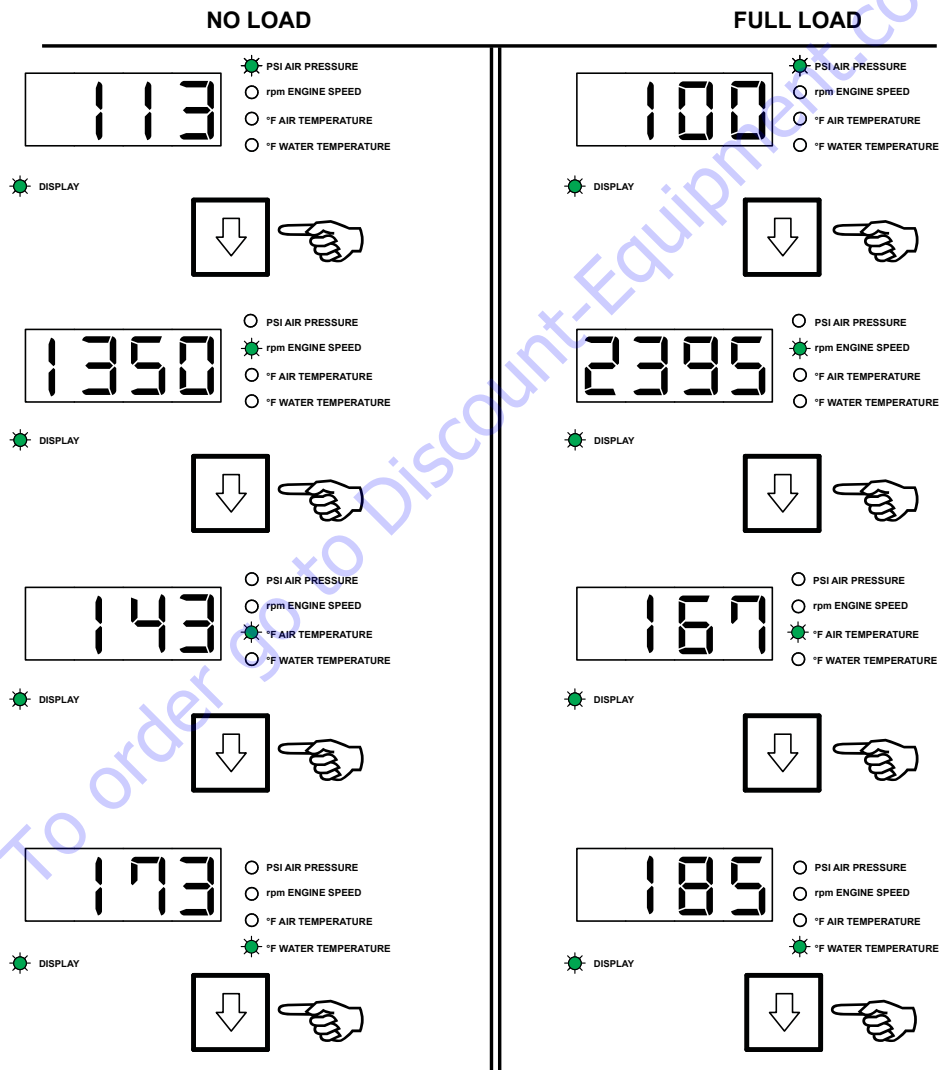

Figure 26. Engine Operating Parameters
12. Press the down arrow button (↓) to cycle through the various compressor/engine operating parameters while the unit is running for **no load** and **full load** conditions (Figure 26).